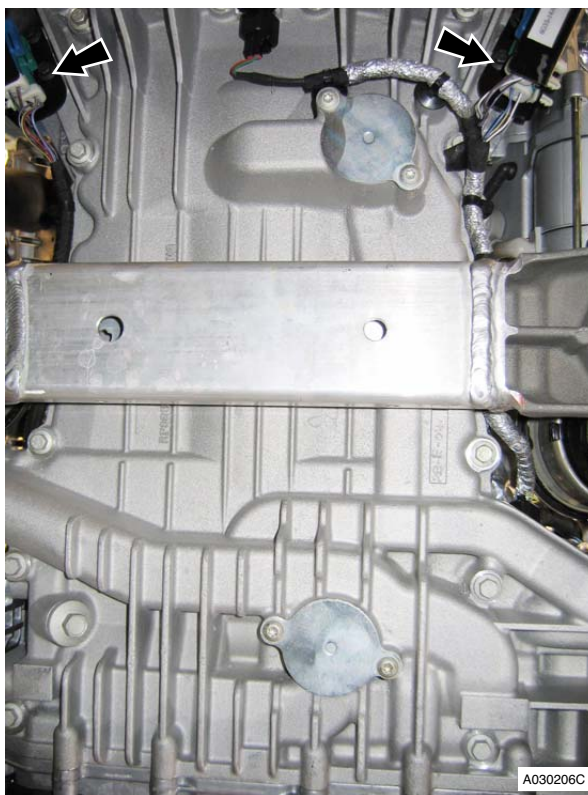

Figure 5
6. Remove bolts (x4) that attach the LH and RH HEGO sensor multiplug brackets to sump (refer to Figure 5).